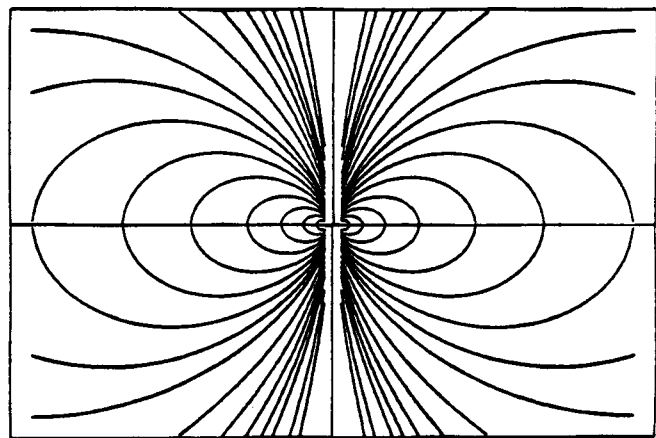
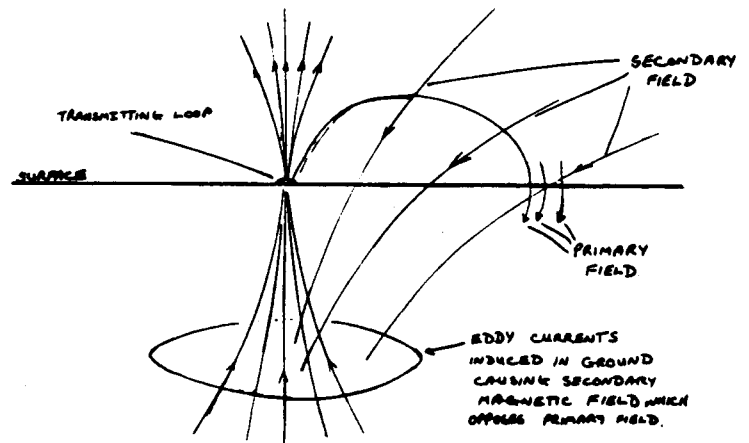

Fig. 1. The primary magnetic field around a coil. (The figure is geometrically accurate.)
Fig. 2. Showing the primary and secondary magnetic fields arising from a loop on the earth's surface.
First, consider a transmitting loop lying flat on the ground (Fig 1). The primary magnetic field is the familiar shape shown in the figure, however the current in the coil will induce eddy currents in the conductive ground. These eddy currents will, like those in any inductive load, be 90° out-of-phase behind the current in the primary coil, and will give rise to a secondary magnetic field (Fig 2).
If a current is introduced into the ground through a pair of spaced electrodes and the potential v across an area between them is measured, (fig 1), then the resistance can be worked out. The relationship between voltage, current and resistance is defined by Ohm's law. This states that  $V = IR$ .
1) The Wenner Configuration is attributed to F. Wenner (1916) who pioneered much of work in the field of resistivity with this array. In the array (fig 2), all the electrode separations [a], are equal so that the apparent resistivity becomes